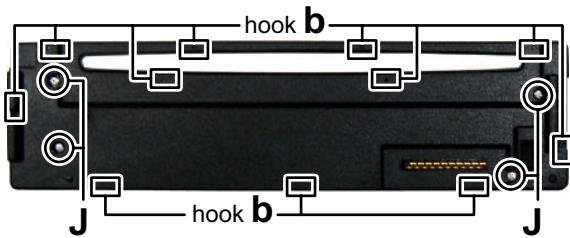

Fig.7
3.1.5 Removing the Switch board (See Fig.7)
3.2.4 Removing the PHOTO BOARD assembly (See Fig.7 and 8)
- From the bottom side of the top cover, release the projection **e** from the notch of the disc plate. (See Fig.7.)
- Take out the disc plate in the direction of the arrow. (See Fig.7.)